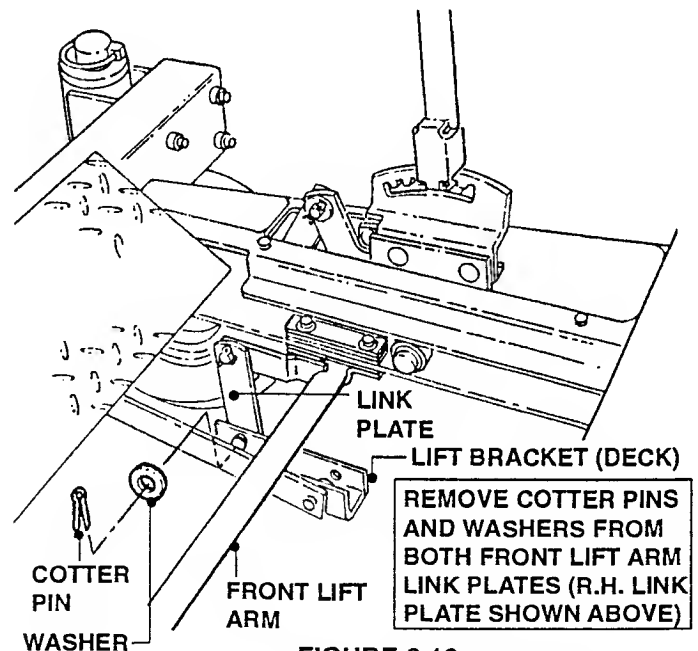

FIGURE 8.12
- D. Remove Cotter Pins and Washers from both Link Plates on sides of Front Lift Arm. See Figure 8.12.